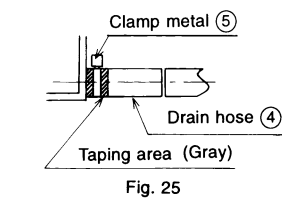

Fig. 25
- Use the attached drain hose (4) and clamp (5). Insert the drain hose into the drain socket, up to the gray tape. Tighten the clamp until the screw head is less than 4 mm from the hose. (Refer to Fig. 25, 26)